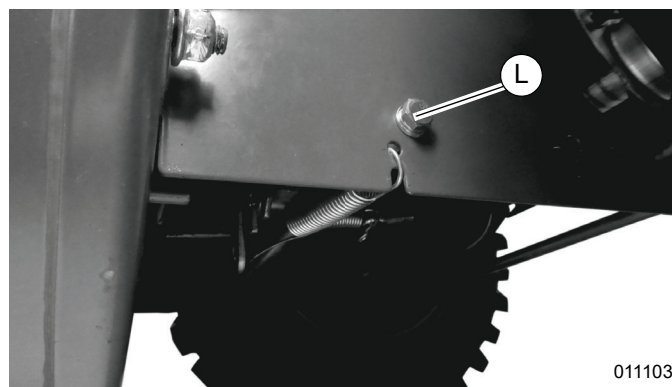

Figure 4-17. Removing Front Strut Hardware
8. See Figure 4-17. Remove bolts, lock washers, and flat washers (L) securing front strut to frame. The friction disc bracket will now move out of the way for belt removal.